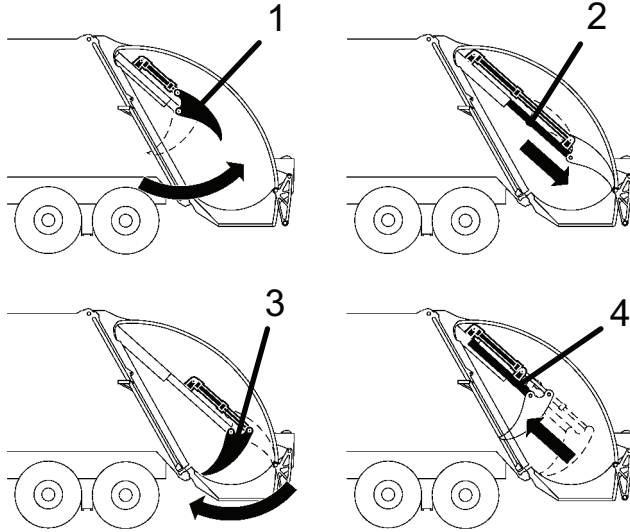

Figure 25
1. Retract the sweep panel to the open position (Figure 25, Item 1).
2. Extend the slide panel to the lower position (Figure 25, Item 2).
3. Extend the sweep panel to the closed (pack) position (Figure 25, Item 3). This “sweeps” the hopper area and begins to pack the refuse.
4. Retract the slide panel to the raised position (Figure 25, Item 4).